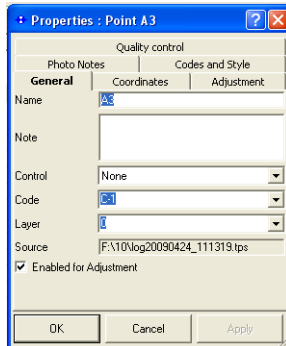

Figure 5-109. General Properties
- View or edit *General* tab fields (Figure 5-109):